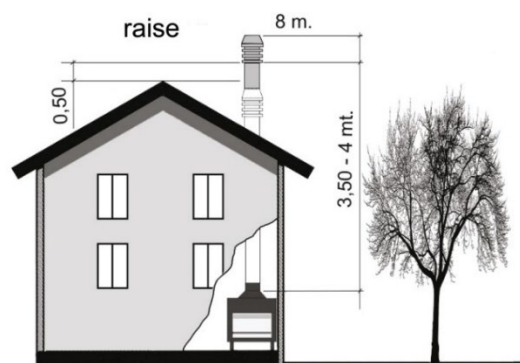
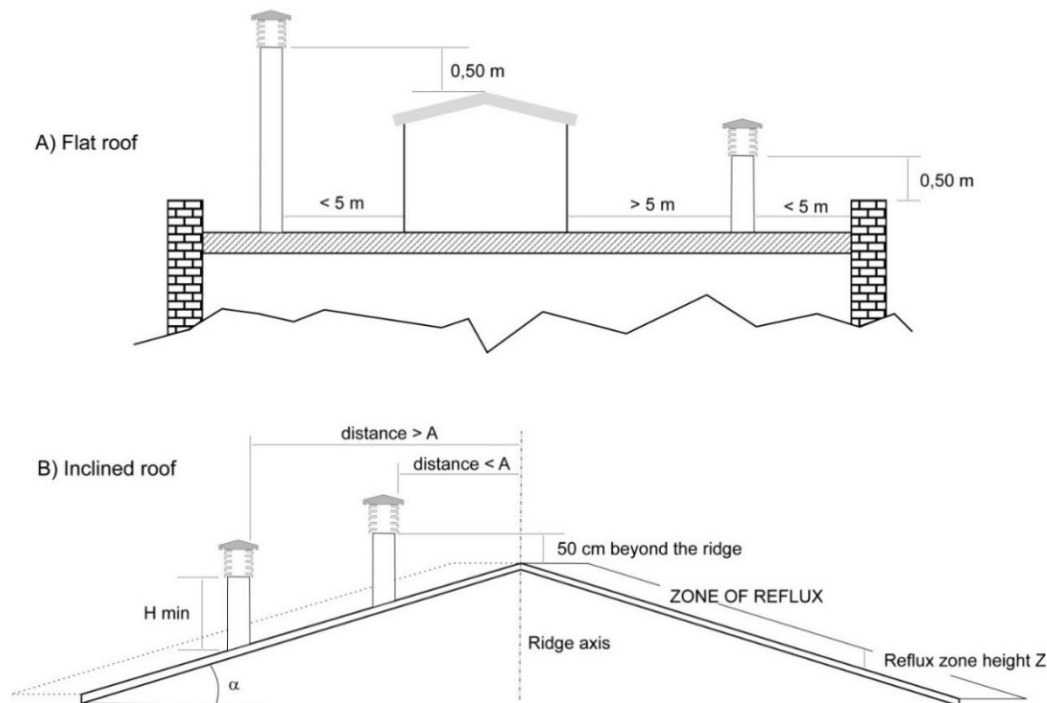

Fig.7
Fig.8
- The chimney pot must be positioned so as to guarantee an adequate dispersion and dilution of combustion products and, in any case, outside the zone of reflux. This zone can be different sizes and shapes depending on the angle of slope of the roof, so it is necessary to adopt the minimum heights shown in *Fig.7* and *Fig.8*.
- The chimney pot must be of windproof and exceed the height of the ridge, (*Fig.7* and *Fig.8*).
- Any buildings or other obstacles that exceed the height of the chimney pot must not be close to the chimney pot itself (*Fig.7*).